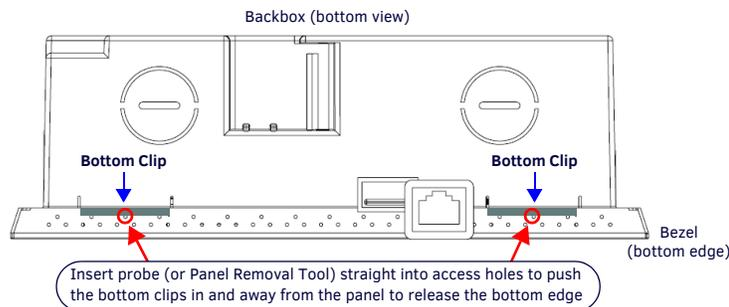

FIG. 6 MSD-701-L2 BACKBOX ASSEMBLY - BOTTOM VIEW
- With a thin probe, carefully press straight into the access holes on the bottom of the bezel (near the center of the bottom tabs) to disconnect the two bottom clips (FIG. 6):